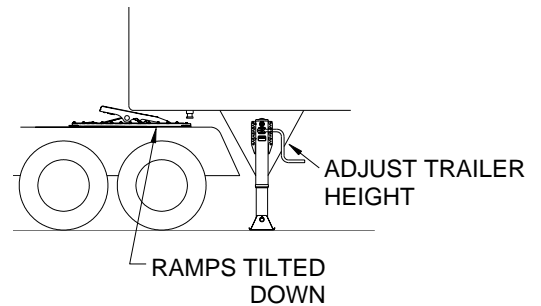

FIGURE 1
1. The ramps must be tilted down (see figure 1).
IMPORTANT! The trailer should contact the fifth wheel at the pivot (see figure 1). When coupling, the fifth wheel must slide freely under the trailer. Do not lift the trailer with the fifth wheel, this will stretch the low lube plates.